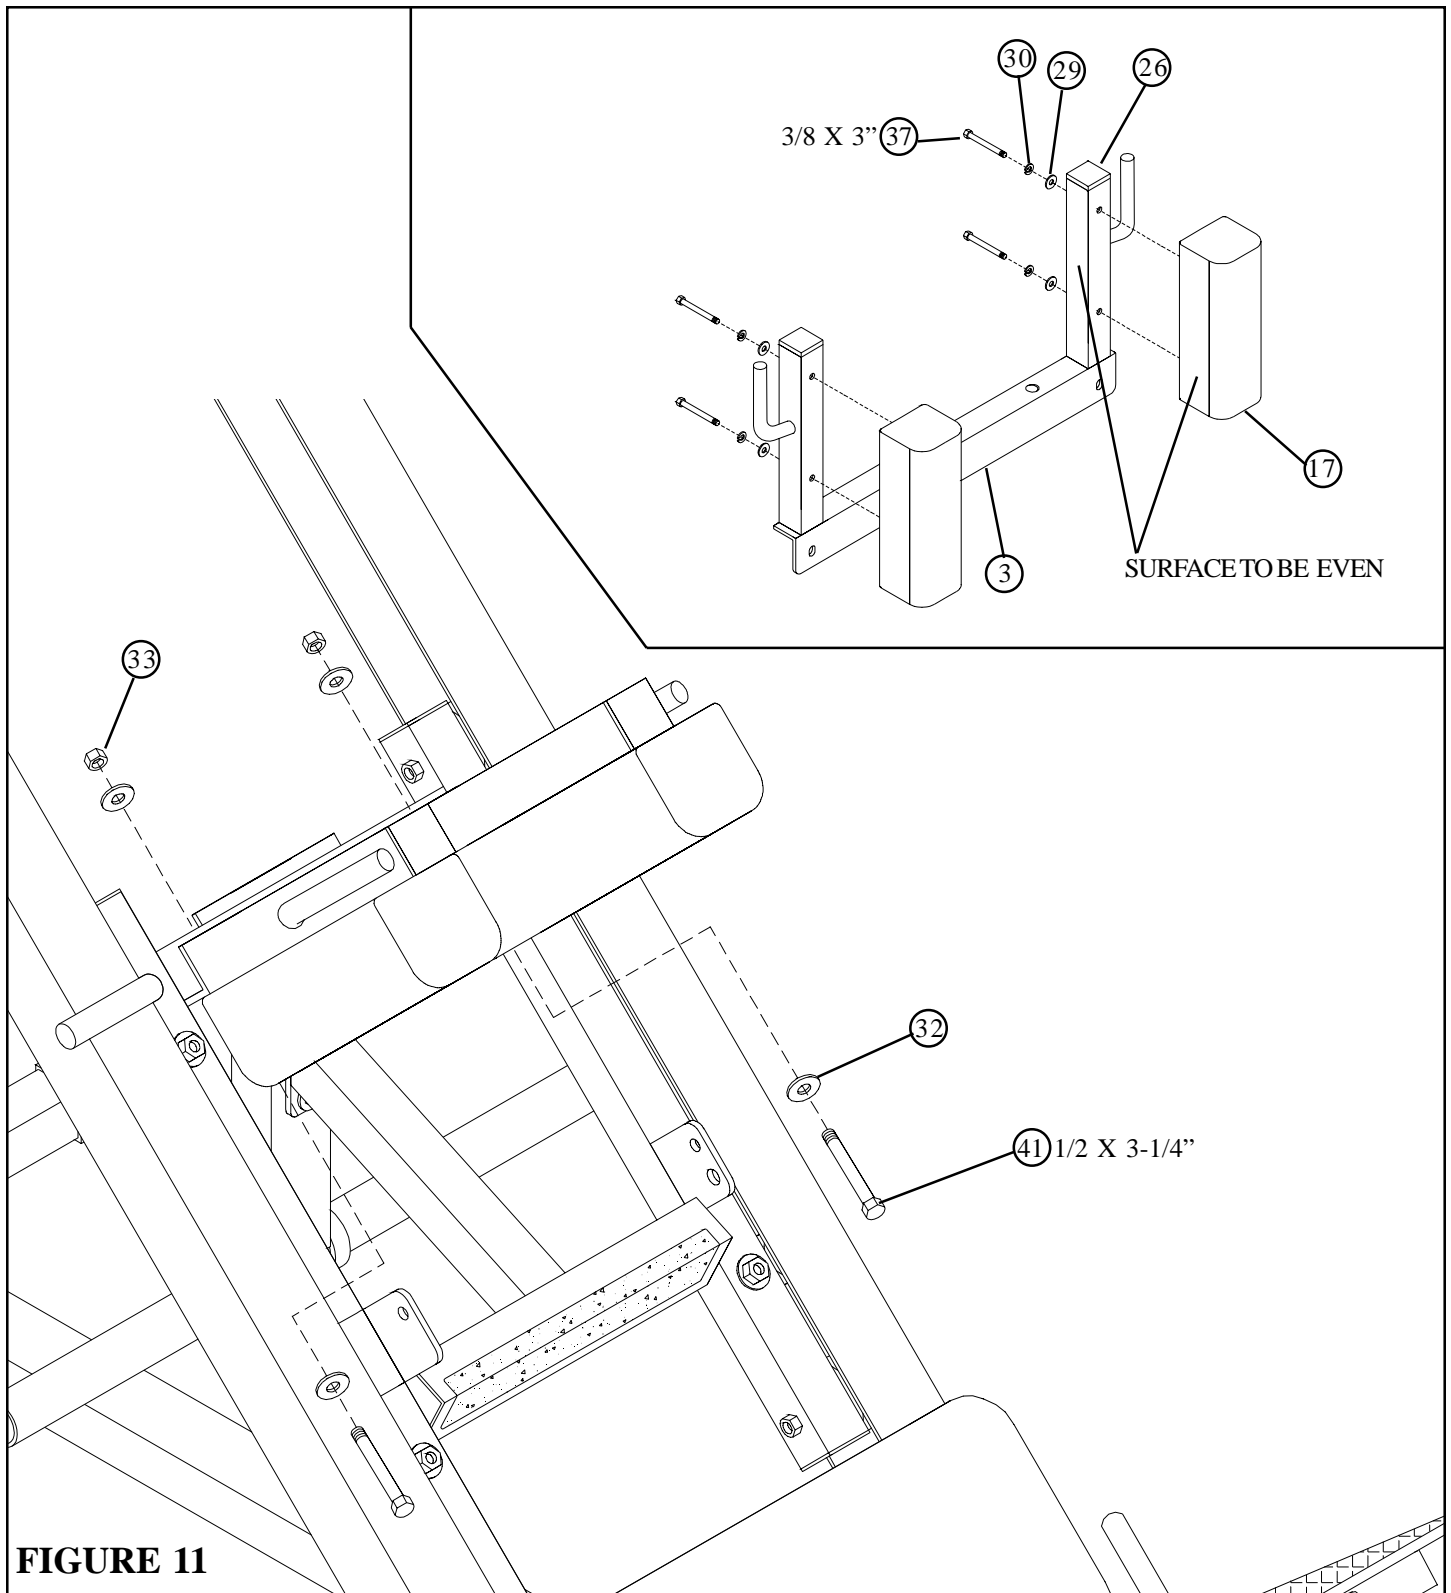

FIGURE 11
- **SECURELY** assemble the two PAD SUPPORTS (3) to the CARRIAGE (16) as shown in FIGURE 11 using two 1/2 X 3-1/4" BOLTS (41), four 1/2" WASHERS (32), and two 1/2" LOCK NUTS (33).
- **SECURELY** assemble two SHOULDER PADS (17) to the PAD SUPPORTS (3) on the CARRIAGE (16) as shown in FIGURE 11 using four 3/8 X 3" BOLTS (37), four 3/8" LOCK WASHERS (30), and four 3/8" WASHERS (29). (**NOTE: THAT HOLES IN PADS ARE OFF-SET TO ONE SIDE**)